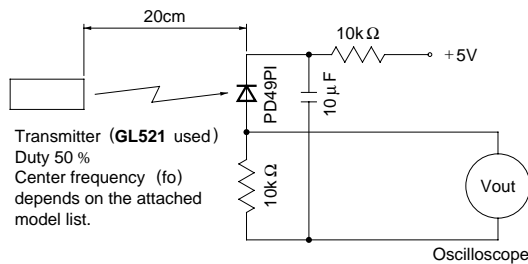
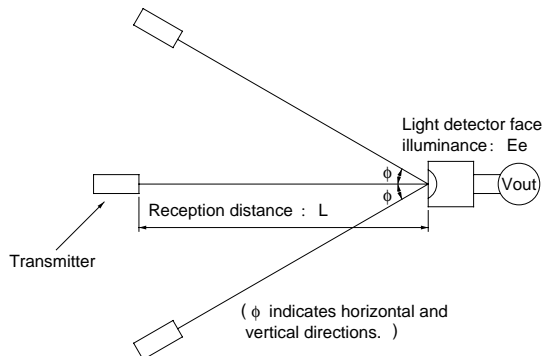

Fig. 1. Transmitter
Fig. 2. Standard optical system
*3 The burst wave as shown in the following figure shall be transmitted by the transmitter shown in Fig. 1.
Using the transmitter shown in Fig. 1, the output signal of the light detecting unit is good enough to meet the following items in the standard optical system in Fig. 2.
When $L = 0.2$ to 6.5m , $E_e < 10\text{ lx}$ and $\phi = 0^\circ$ in Fig. 2, the output signal shall meet the electrical characteristics in the attached list.
When $L = 0.2$ to 4.5m , $E_e < 10\text{ lx}$ and $\phi \leq 30^\circ$ in Fig. 2, the output signal shall meet the electrical characteristics in the attached list.
When $L = 0.2$ to 3m , $E_e \leq 300\text{ lx}$ and $\phi = 0^\circ$ in Fig. 2, the output signal shall meet the electrical characteristics in the attached list.